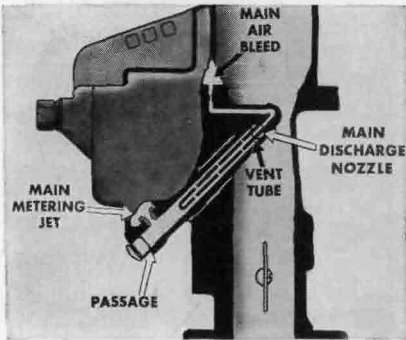

FIG. 10-14. The main metering jet and the vent tube in a carburetor. (Plymouth Division of Chrysler Corporation)
2. Check the main metering jet and vent tube (Fig. 10-14) after [256]